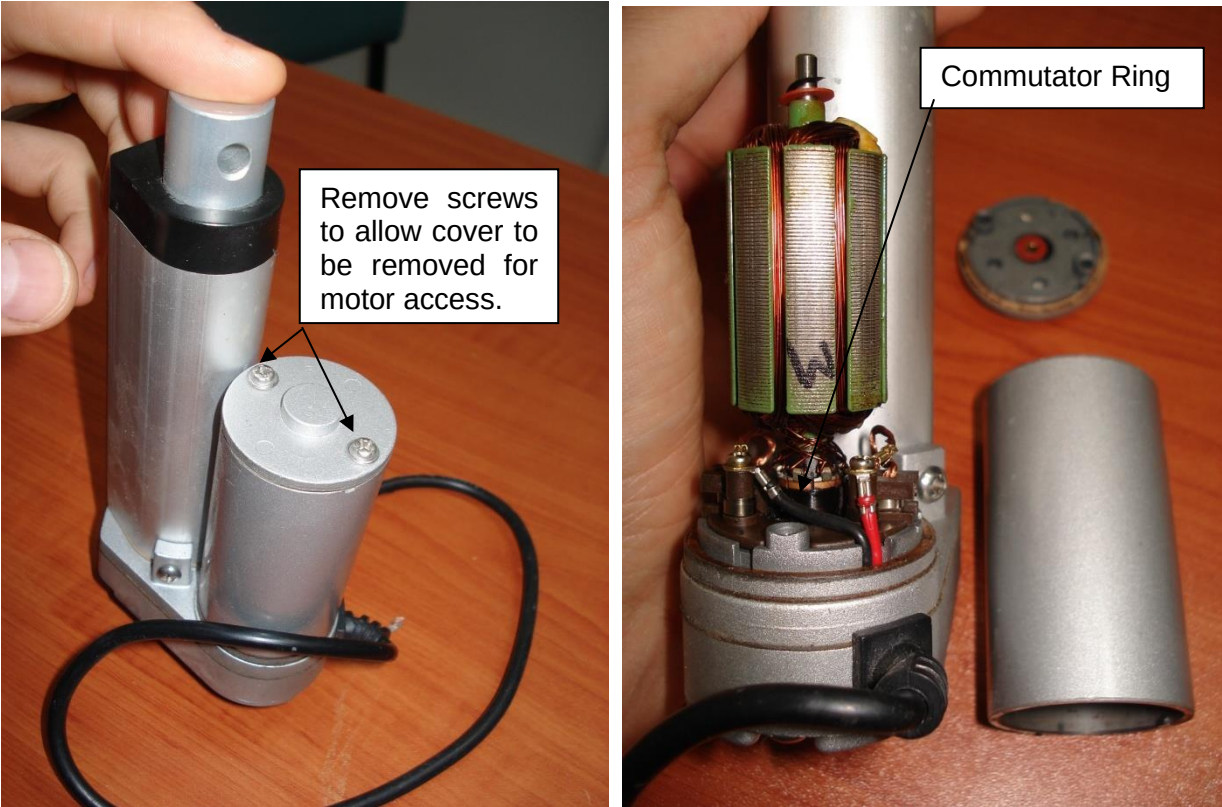

Figure 113 – Linear Actuator Disassembled (all J-Series)
- Remove the two screws then take off the motor cover as shown in Figure 113.
- Figure 113 shows a close-up picture of the commutator ring. The unit in this picture is very dirty and badly needs cleaning.